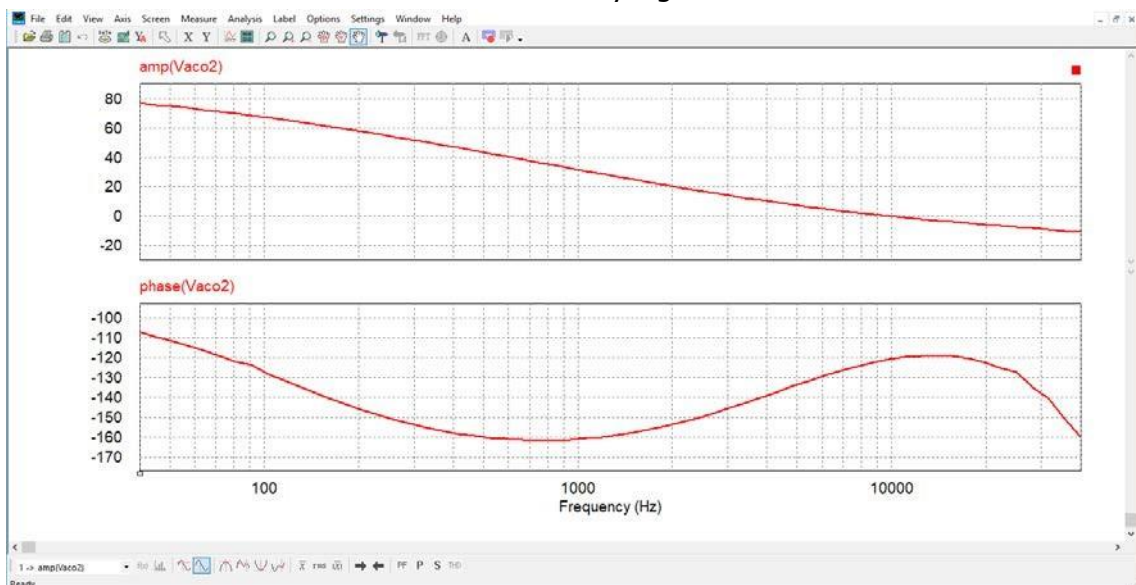

Figure 20: open loop gain measured in Psim
2. The result of the simulation is the one shown by Figure 20.